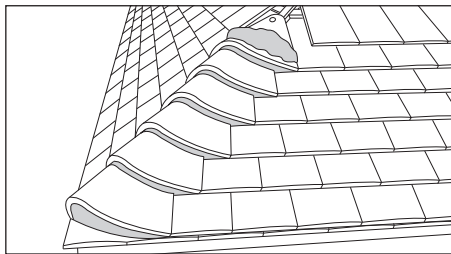

Fig. 11 – Bedded and mechanically fixed bonnet hip tiles
- 4 Straight cut tiles adjacent to each side of bonnet hip to maintain bond and fix with 70mm x 3.35mm aluminium nails (Fig. 11).